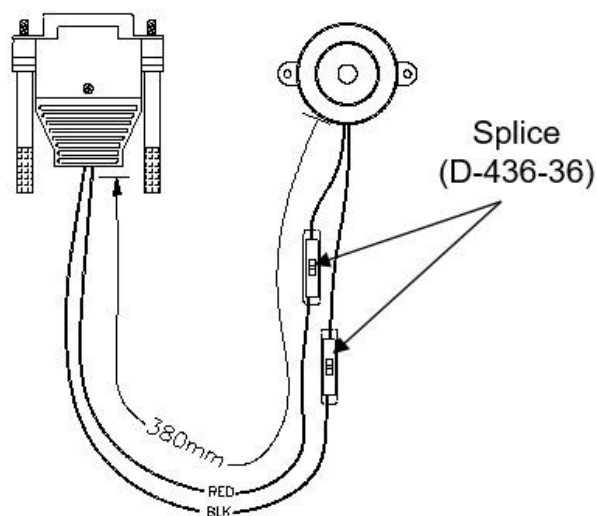

Figure 3. Splices on the interface module.
15. Remove the Cleco fasteners and secure the bracket to the baggage tray using 12 rivets (item 16). install the rivets such that the heads protrude inside the baggage tray.
18. Install the plate assembly (item 3) behind the B-bulkhead. Secure the plate assembly using two rivets (item 17).
19. Splice the Artex ELT installation kit connector (item 9) to the Artex ELT buzzer (item 7) using the splices provided (item 13). Refer to Figure 3.